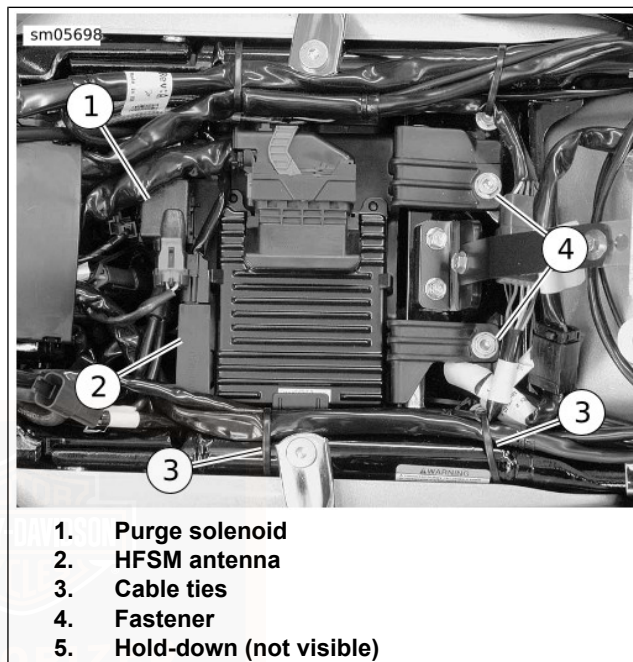
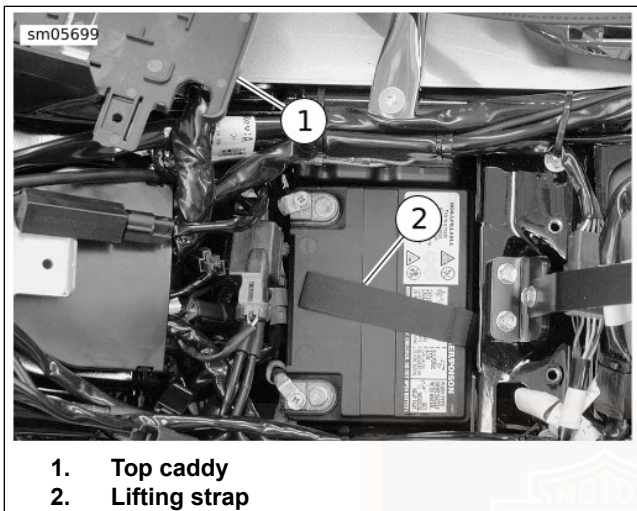

Figure 71. Top Caddy
Figure 72. Move Top Caddy Aside
2. See Figure 71. If present, move purge solenoid (1) forward to release from top caddy. Release HFSM antenna (2) from top caddy and move out of the way.
3. Remove fasteners (4).
4. Cut cable ties (3) and move harnesses to allow more clearance for the top caddy.
5. See Figure 72. Release top caddy from front hold-down bracket and rotate top caddy (1) out of the way.
6. See Figure 72. Fold lifting strap (2) forward over top of battery.
7. See Figure 71. Rotate top caddy into position above battery and engage latch on hold-down bracket.
8. If equipped, engage HFMS antenna (2) and purge solenoid (1) on top caddy. Verify all other connectors and harnesses are routed below the purge solenoid mounting tongue.
9. Fasten top caddy to frame crossmember. Tighten screws (4) to 8.1–10.9 N·m (72–96 **in-lbs**).
10. Secure harnesses to frame with cable ties (3).